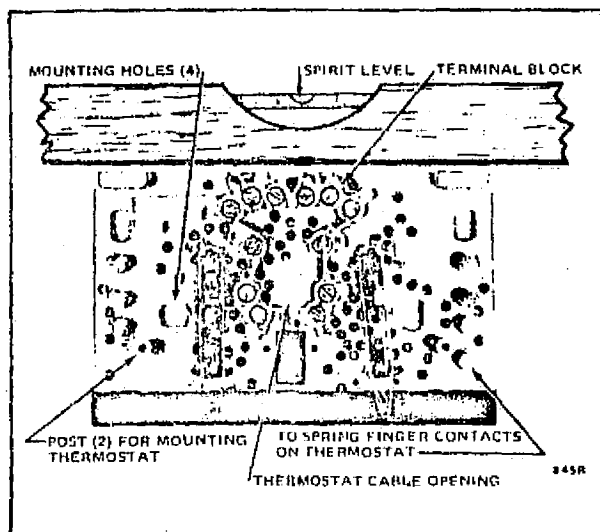

FIG. 3—LEVELING THE SUBBASE.
5. The subbase mounting slots provide for minor out of level adjustments. Level the subbase using a spirit level, as shown in Fig. 3, and tighten subbase mounting screws.